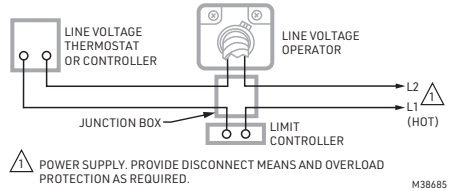

Fig. 7. Typical wiring for 120 V system.
7. Make the mechanical and wiring connections at the junction box. See Fig. 7.